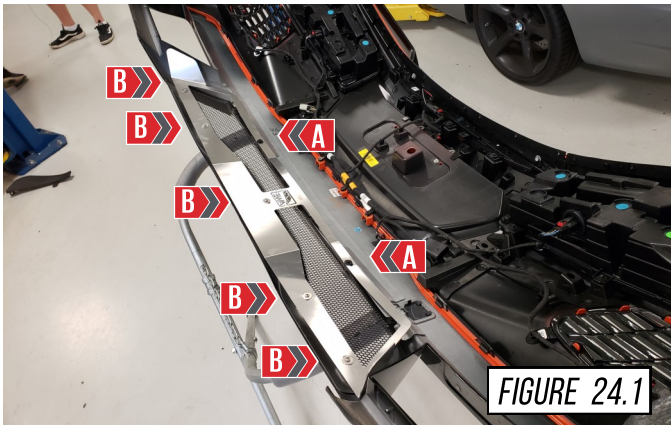
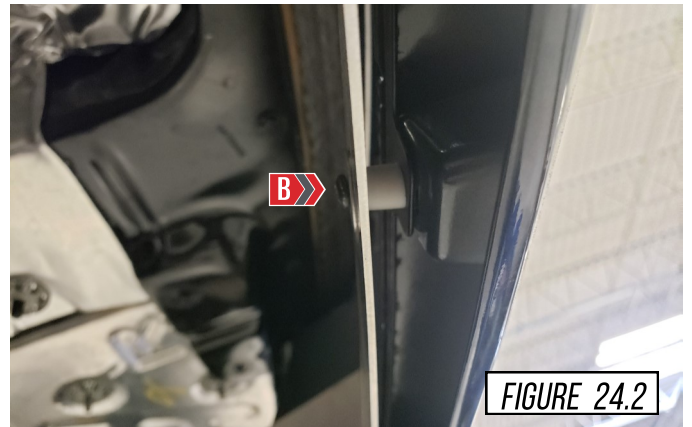

FIGURE 24.1
FIGURE 24.2
Install the AWE heat shield to the inside of the bumper, as shown in **Figure 24.1**. The top 2 holes (A) use the OE hardware and the bottom 5 holes (B) is using supplied hardware, as shown in **Figure 24.2**.